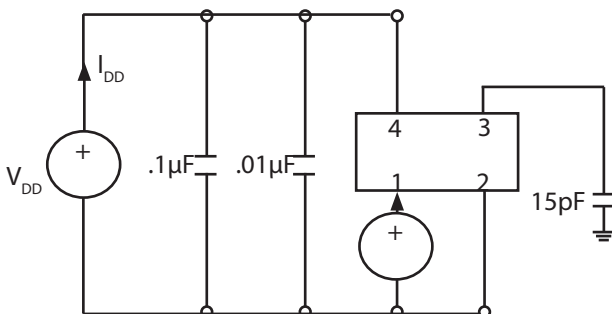

Fig 1: Test Circuit
- 2] Parameters are tested at a test circuit shown in Figure 1.
2] Parameters are tested a test circuit shown in Figure 1.
- 2] Parameters are tested a test circuit shown in Figure 1.